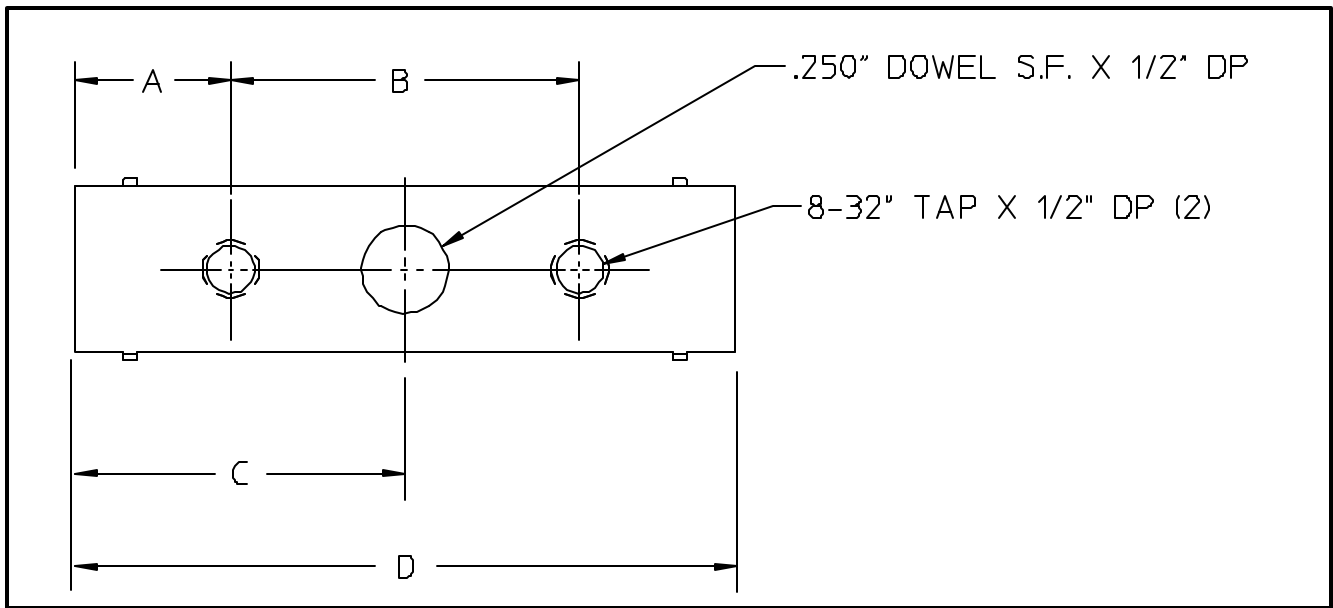
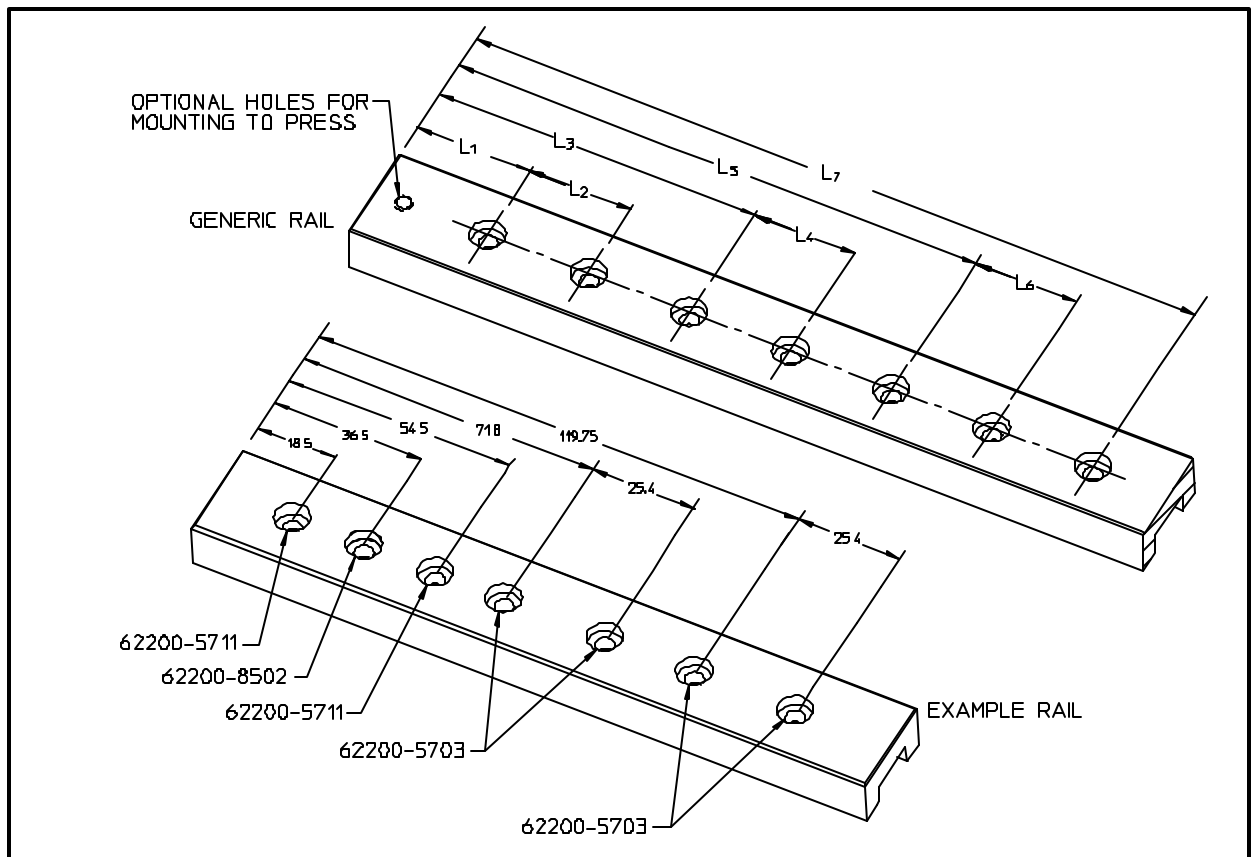

Fig. 2-2
Fig. 2-5
Fig. 2-2 and Table 2-1 show the insertion module dimensions necessary to design a mounting rail
7. Taking dimensions from Table 2-1 and Fig. 2-2, calculate the locations for the bolt holes (Ref. to Fig. 2-5).